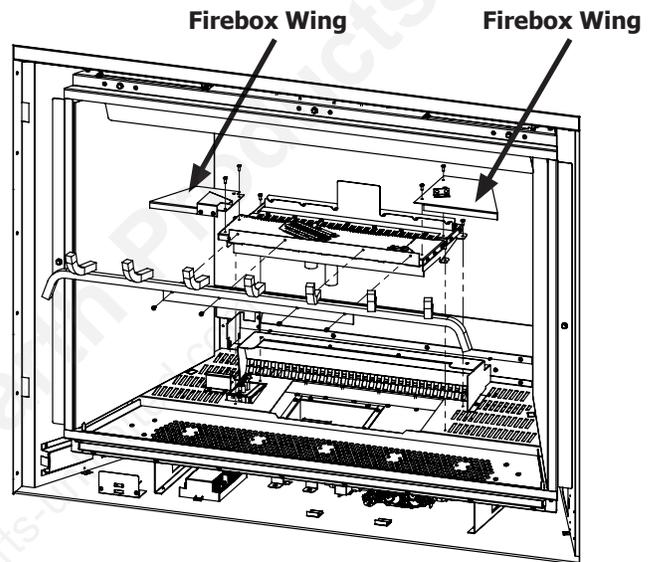

Figure 22. Front Burner Removal
6. Remove the four (4) T20 screws securing the front burner pan (see Figure 22). If needed, there are four T20 screws that fasten the Burner Wings to the burner that can be removed for easier access to the two lower T20 screws. Once the specified screws are removed lift up to remove.